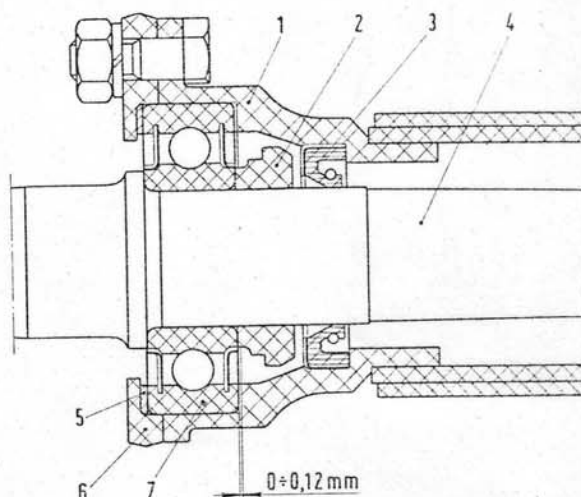

Fig. 68. - Scrap view of rear axle housing and axle shaft bearing side section.
NOTE - The axle shaft bearing is raised from its housing in rear axle and, when fitted in place, the bearing should show a clearance of .0000" to .0047" (0 to 0.12 mm) to its shoulder face on housing (fig. 68). Correct clearance is obtained with a shim (5, fig. 68) situated between bearing and caliper carrier plate.
Using a feeler gauge, check that both the ball bearing (7, fig. 68) and the lock nut (2) have not slid out of place on axle shaft. The ball bearing should closely adhere to the raised stop on shaft and the lock nut should shoulder the bearing.